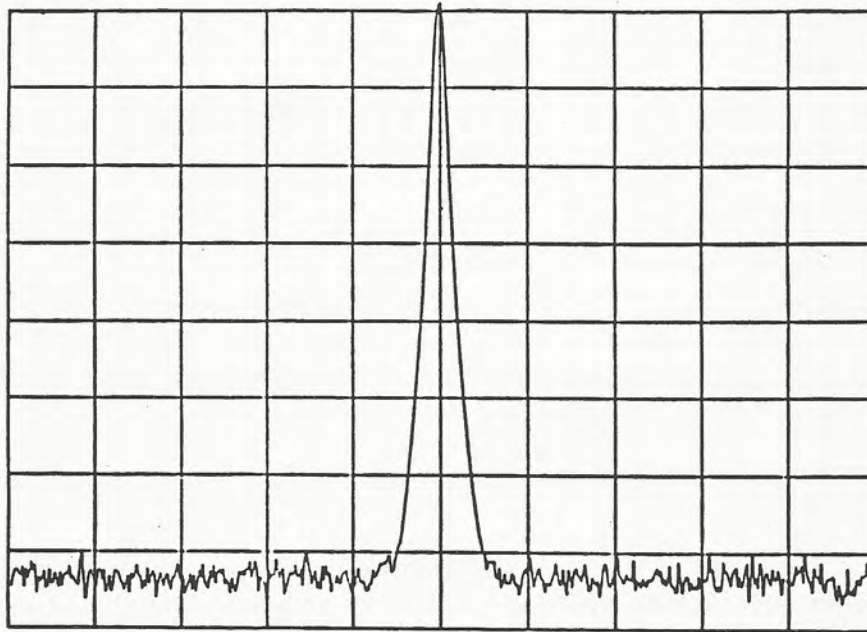

Figure 5-5A
5. Disconnect the program input to the transmitter and adjust display on the spectrum analyzer so that the waveform is at the top graticule (see Figure 5-5A).
Reconnect the program input of the transmitter. The display on the spectrum analyzer should be similar to Figure 5-5A.